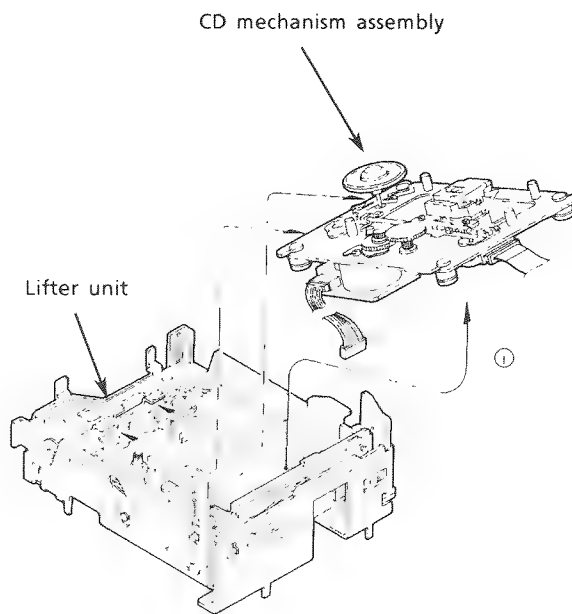

Fig. 38
2. Lift the CD mech. ass'y toward the direction (j) to remove it from the lifter unit. (See Fig. 38.)